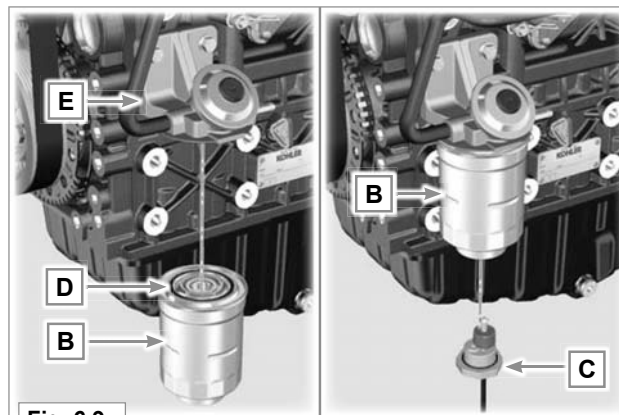

Fig. 6.9
- 3 - Loosen the cartridge **B** using the appropriate wrench (Fig. 6.9).
- 5 - Tighten the new empty cartridge **B** (Fig. 6.9) on the diesel fuel filter support **E** using the special wrench (tightening torque of **17 Nm**).